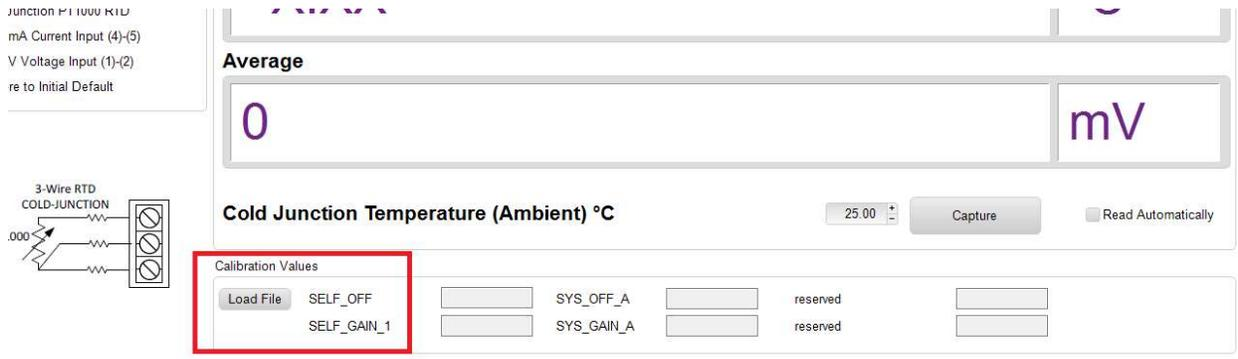
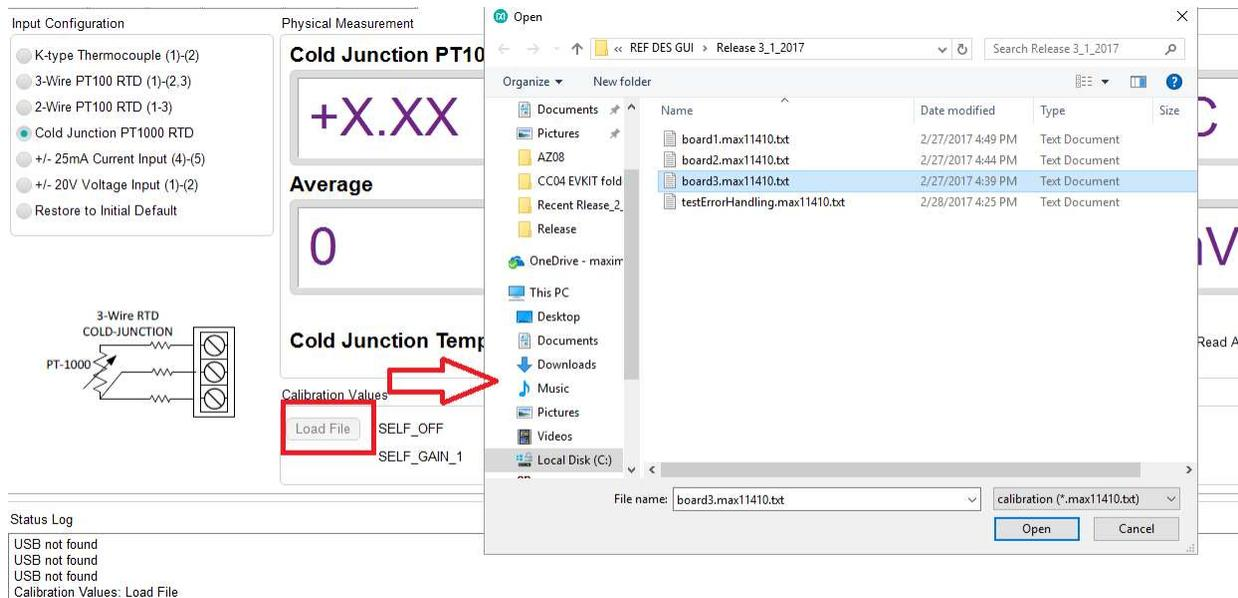

Figure 5.
Figure 6
10. Loading Calibration File: Pre-calibrated information is available for BRD #1, BRD #2, BRD #3 as shown below in Figure 5 and Figure 6 respectively